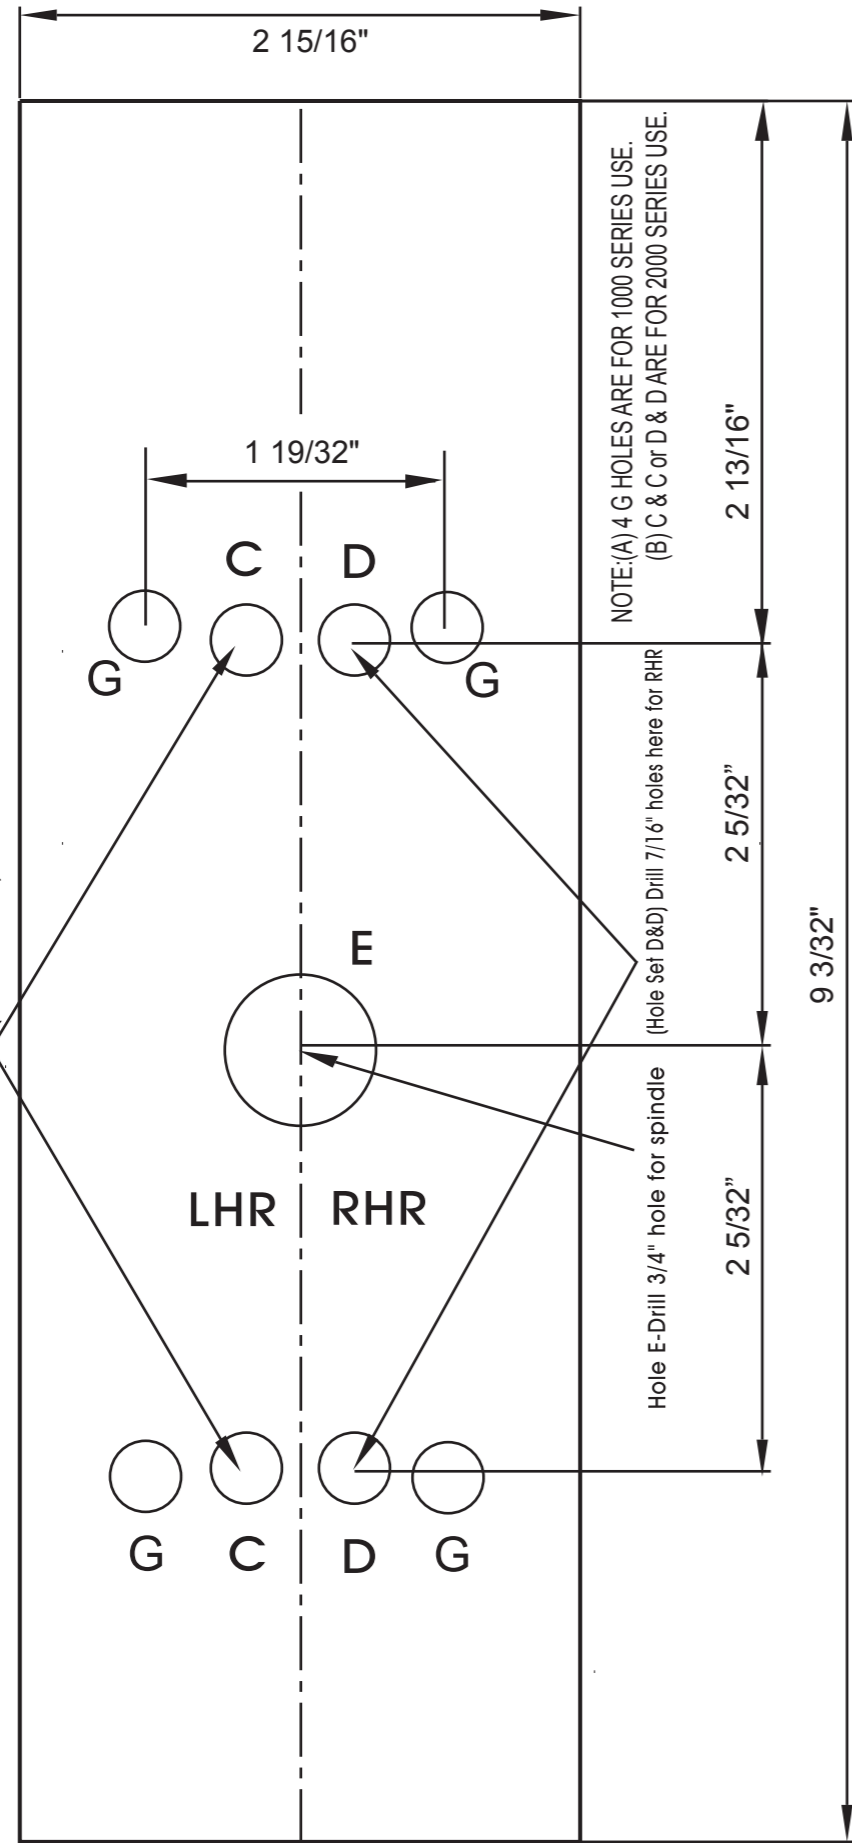
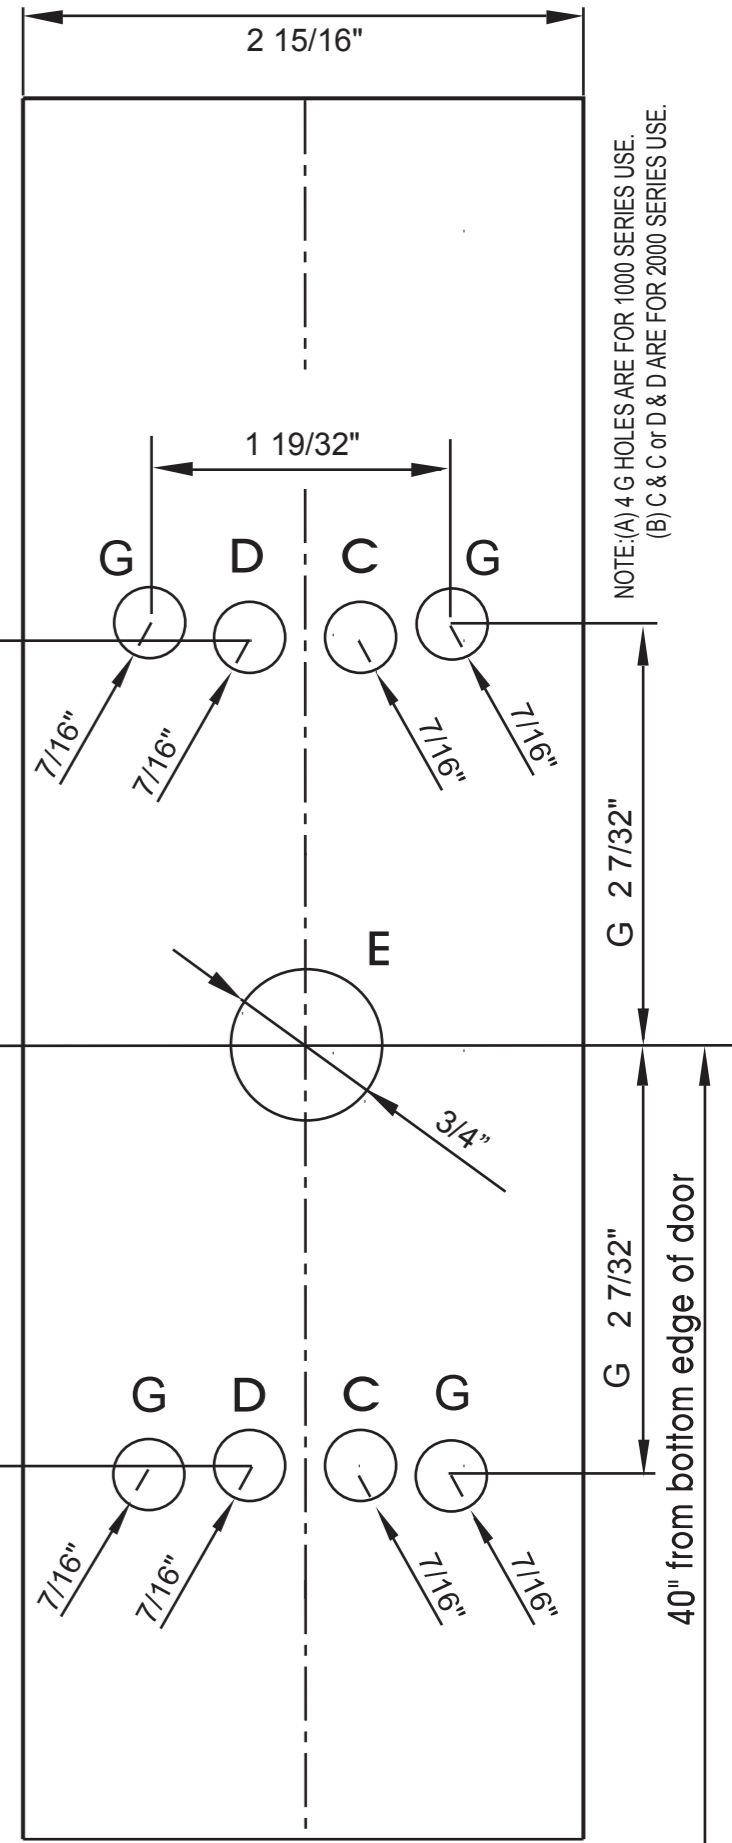

Fig7
Fig9
4. FOR 1000 SERIES SCREW THRU BOLTS INTO (4) G HOLES & FOR 2000 SERIES SCREW THRU BOLTS INTO EITHER C&C FOR LHR OR D&D FOR RHR AND TIGHTEN.
7. PROCEED WITH TEMPLATING DOOR AS SHOWN IN FIG 7 AND FIG 9 FOR EITHER 1000 OR 2000 SERIES.